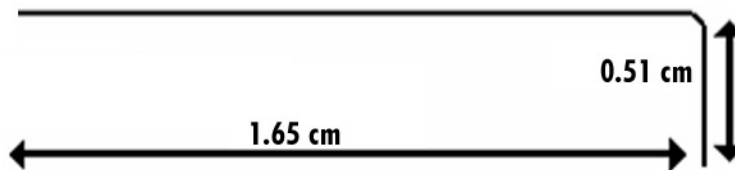

Figure 199 Pogo electrode
Contact between the working electrode (WE) on the sample plate and the sample itself is typically accomplished using the L-shaped pogo electrode included with the system (Figure 199). The pogo contacts the sample through a separate access hole outside of the liquid cell chamber. Since it is not in contact with the electrolyte it does not require special cleaning. A wire made to the same dimensions can be used in place of the pogo.